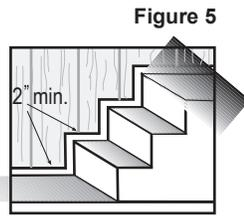

Figure 5
- Maintain a minimum 2" clearance between James Hardie products and roofs, decks, paths, steps and driveways (fig. 5 & 6).